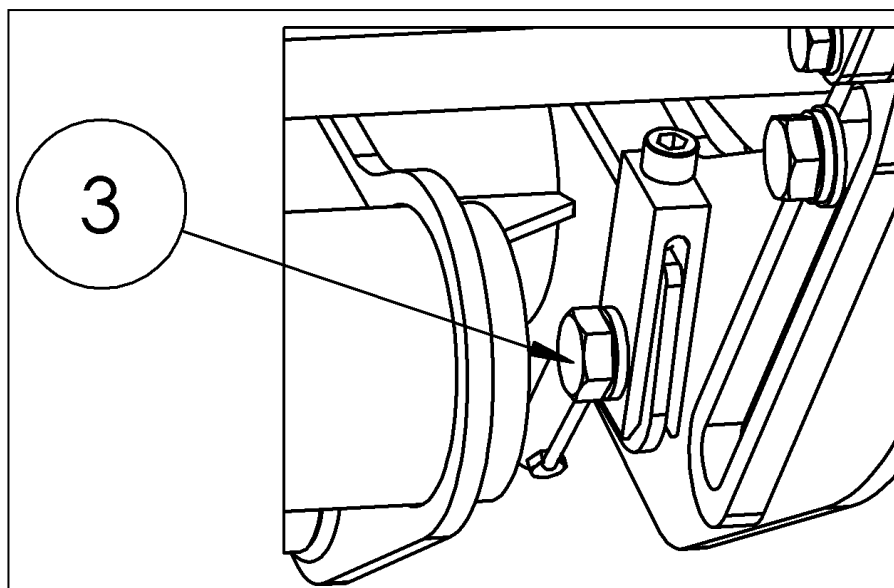

Figure 77
- When finished adjusting, tighten the bolt (3) for securing the torsion bar to 115 Nm (see torque table on page 67 and see Fig. 77).